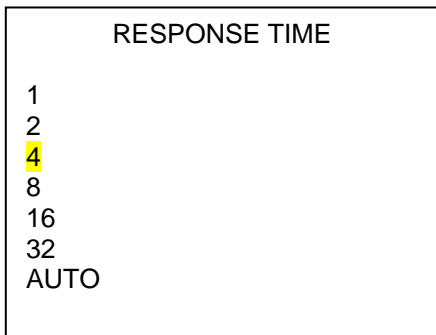

Figure 2-18. Response Time Setup
Response Time adjustment contains seven settings/selections: 1, 2, 4, 8, 16, 32 and “AUTO” seconds (see Figure 2-18). When “AUTO” seconds is selected, the response time will automatically vary between one (1) second and 32 seconds, depending on the intensity of the field that is currently being measured (i.e. higher-intensity radiation fields will shorten the response time; lower-intensity fields will lengthen it accordingly). Pressing the “SEL” key saves the setting and returns to the normal operating screen.